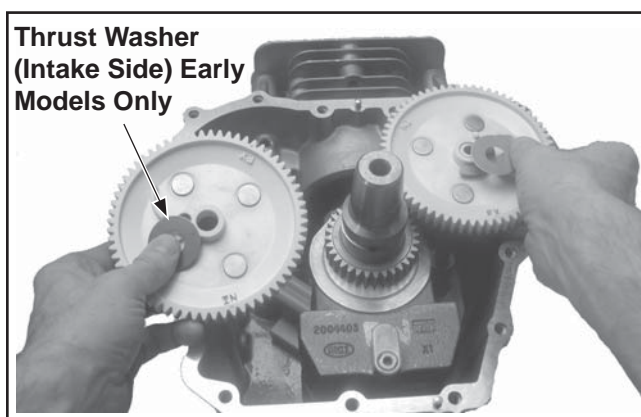

**Figure 8-39. Removing Oil Passage Cover and Gasket.**
2. Remove the six screws securing the oil passage cover to the closure plate. Remove the cover and gasket. See Figure 8-39.